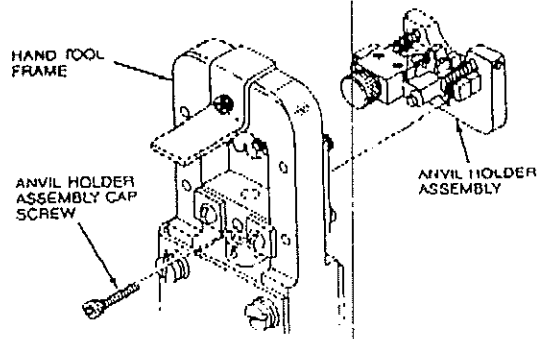

Figure 7
2. Using a 7/64-inch Allen wrench, remove the cap screw securing the anvil holder assembly to the hand tool (see figure 7). Then remove the anvil holder assembly.